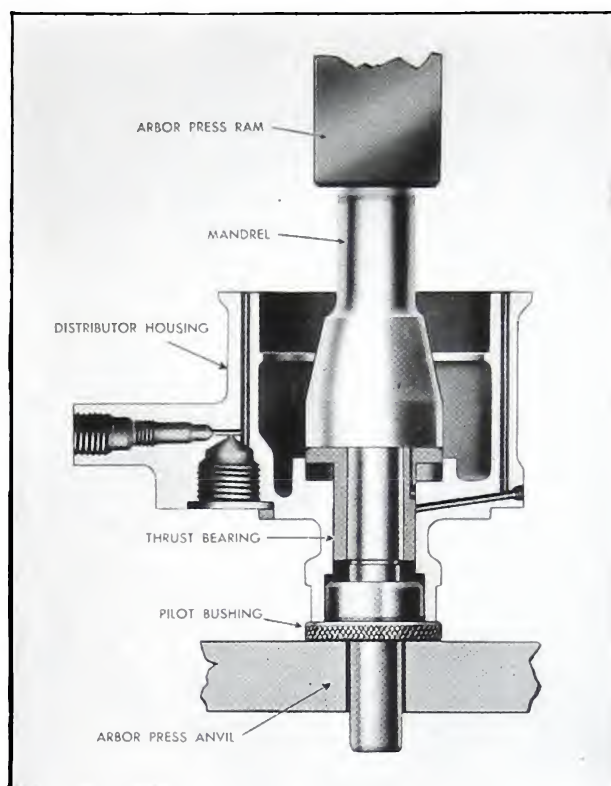

Fig. 5-71. Pressing in thrust bearing
2. A special piloted mandrel, ST-75, is essential to the replacement of the thrust bearing. Without a tool of this kind the thrust bearing would be sheared by the housing as it was being pressed into the housing and a perfect seal would be impossible. Fig. 5-71.